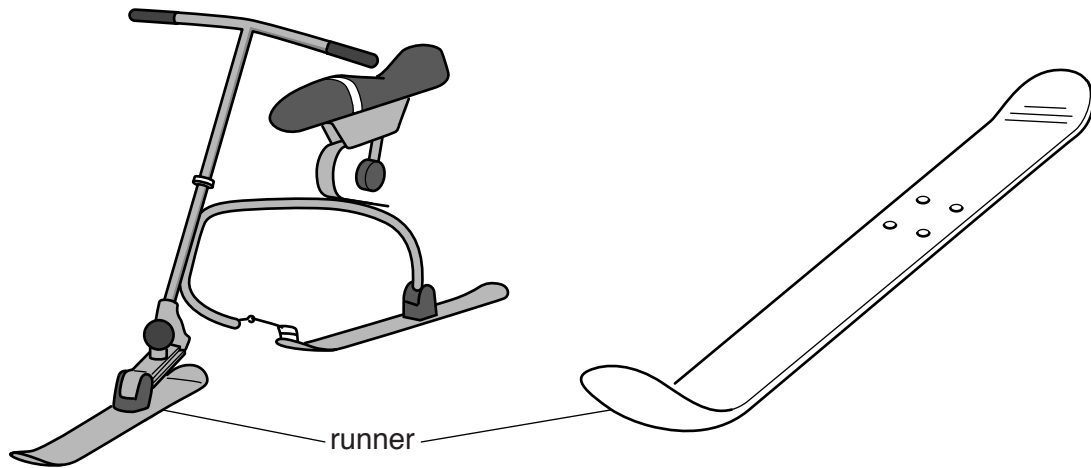

Fig. 2
2 Fig. 2 shows a snow ski bike.
- (a) State a suitable material for the runner for a snow ski bike of the type shown in Fig. 2 and give **two** reasons for your choice. [3]